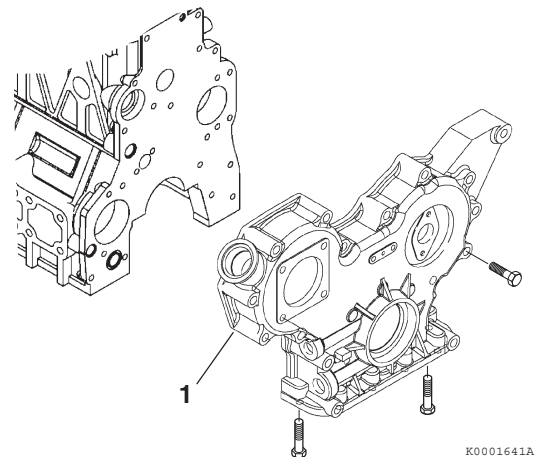

Figure 6-101
1. Apply a continuous bead of ThreeBond Liquid Gasket No. 1207F, YANMAR Part No. 977770-1207F to the mounting area of the gear case cover **(Figure 6-101, (1))**. Be sure to circle the bolt holes.